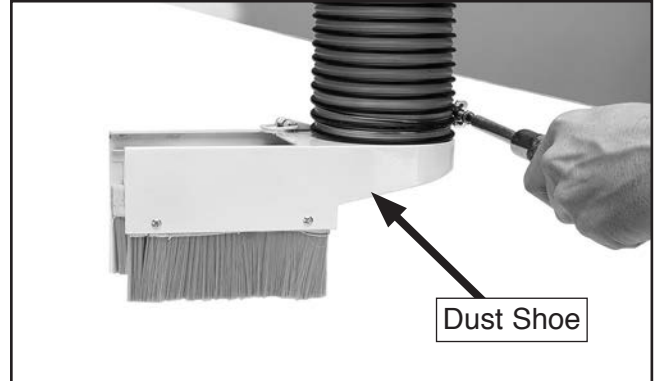

Figure 16. Tightening dust hose clamp.
2. Fit 4" dust hose over dust shoe, as shown in **Figure 16**, and secure in place with hose clamp.